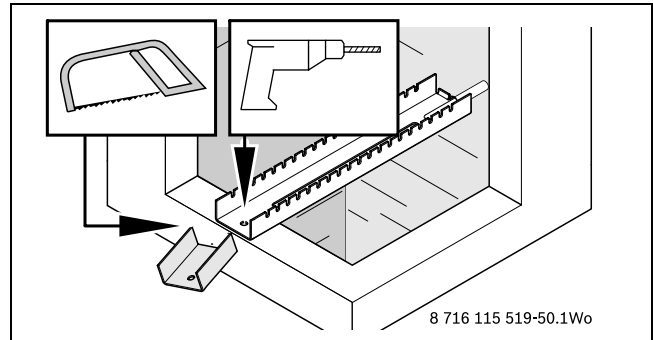

Fig. 8 Cutting the support bar
- ▶ Cut the support bar to fit the chimney as in fig. 8.